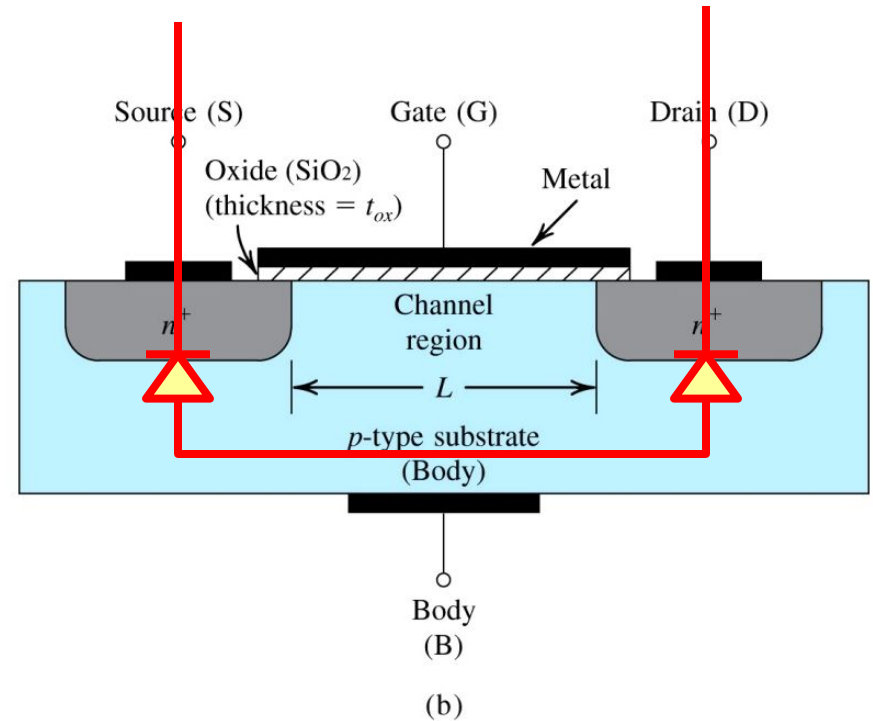

Figure 5.1: Physical structure...
- Figure 5.1. shows general structure of the n -channel enhancement-type MOSFET
Figure 5.1: Physical structure of the enhancement-type NMOS transistor: **(a)** perspective view, **(b)** cross-section. Note that typically $L = 0.03\mu\text{m}$ to $1\mu\text{m}$, $W = 0.1\mu\text{m}$ to $100\mu\text{m}$, and the thickness of the oxide layer (t_{ox}) is in the range of 1 to 10nm .